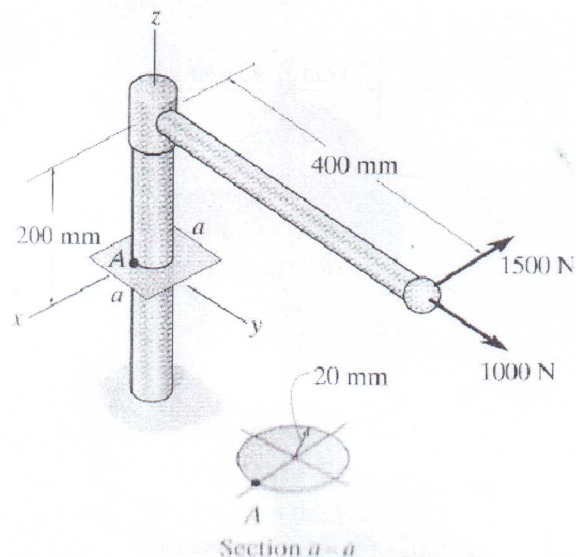

Figure 2.
- (2) Determine the state of stress at point A on the cross section of the pipe assembly at section $a-a$ shown in Figure 2.